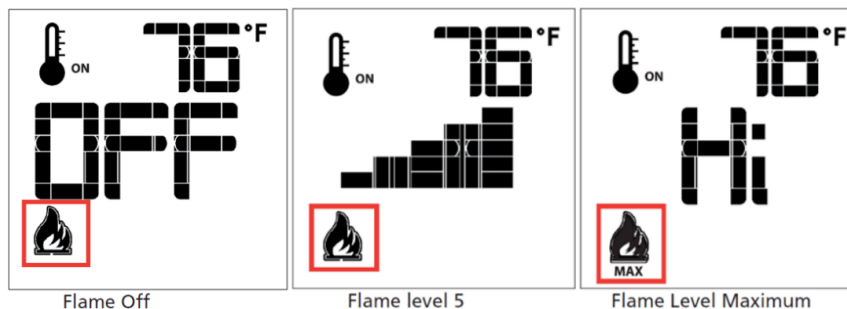

FIGURE 49
The system has six (6) flame levels. See (**Figure 49**) for an example. With the system on, and the flame level at the maximum in the appliance, pressing the Down Arrow Key once will reduce the flame height by one step until the flame is turned off. The Up-Arrow Key will increase the flame height each time it is pressed. If the Up Arrow Key is pressed while the system is on, but the flame is off, the flame will come on in the high position (**Figure 49**). A single "beep" will confirm reception of the command.